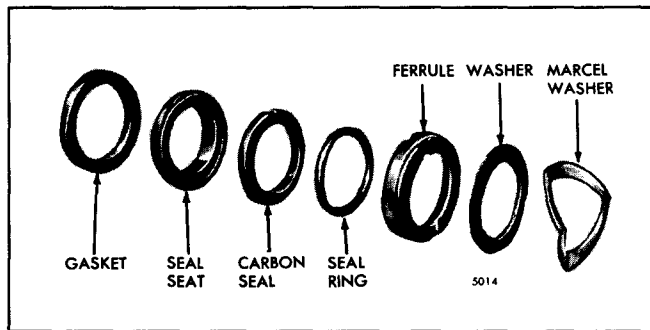

Fig. 3 – V-Type Engine Impeller Seal Detail
4. Remove the seal assembly (Fig. 3) from the pump used on the V-type engine by inserting two wires with hooked ends between the pump housing and the seal, with the hooks over the edge of the carbon seal. Remove the seal seat and gasket in the same way.